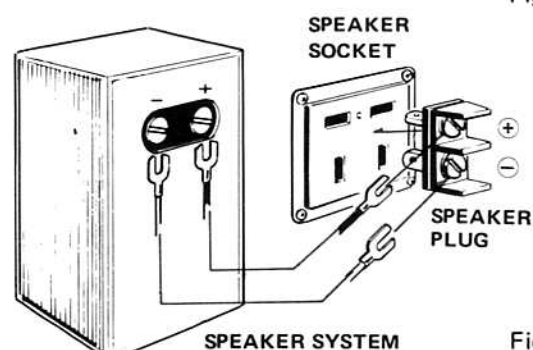

Fig. 5
2. As shown in Fig. 5, accessory speaker plugs are used to connect the speaker systems. Be sure to observe marked polarity (+, -). Do not short (+) and (-) connections.